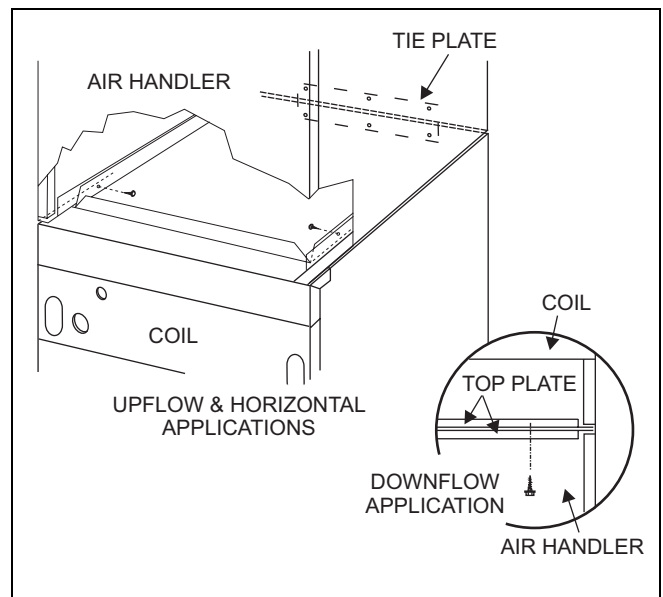

FIGURE 6 : Tie Plate & Fastening Tabs
5. Fasten duct flanges of coil to duct flanges of air handler with screws. See Figure 6.